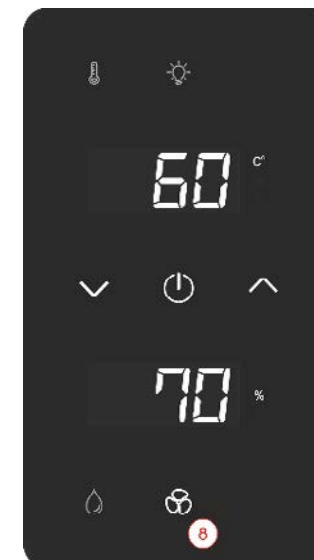

Fig. 13 Switching the fan on
1. Press the “Fan button” (Fig. 13/Item 8).
4. Press the “Fan button” (Fig. 13/Item 8) again to save the selected value.